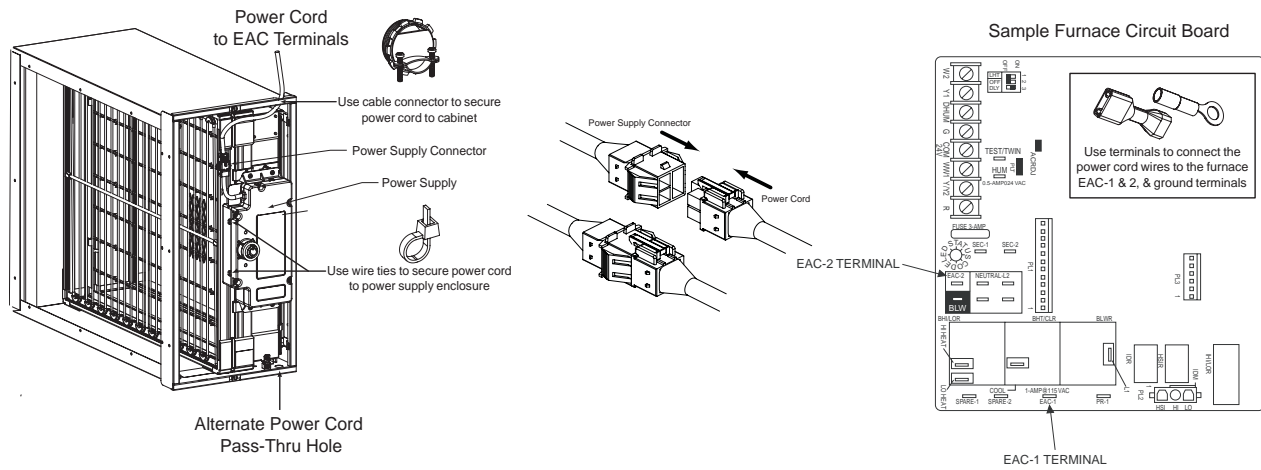

Fig. 7 - Perfect Air™ Purifier Electrical Connections
- Connect the power cord to the power supply connector (see Fig. 7).